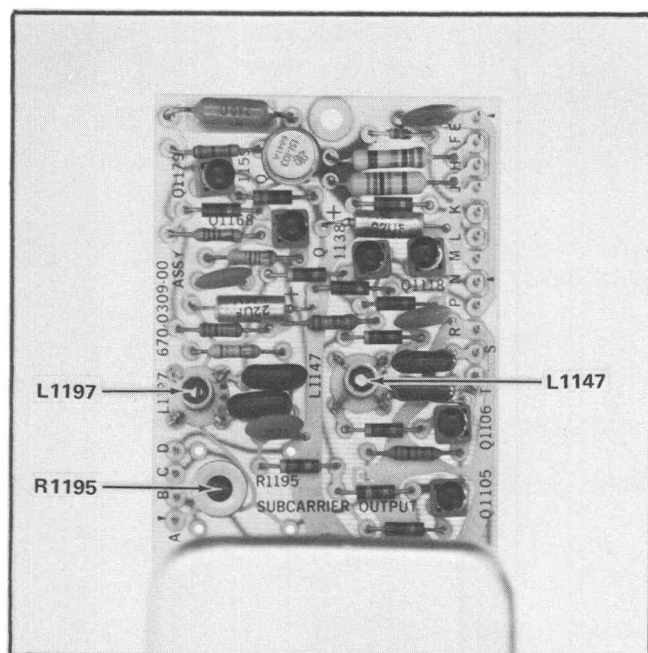

Fig. 5-4. Subcarrier Output board adjustment locations.
- e. ADJUST—R1195, see Fig. 5-4, fully clockwise and fully counterclockwise; subcarrier oscillator must be adjustable from 3.579540 to 3.579550 MHz (3.579545 MHz, ± 5 Hz).
h. ADJUST—L1147 (see Fig. 5-4) for maximum signal amplitude as measured on the test oscilloscope.